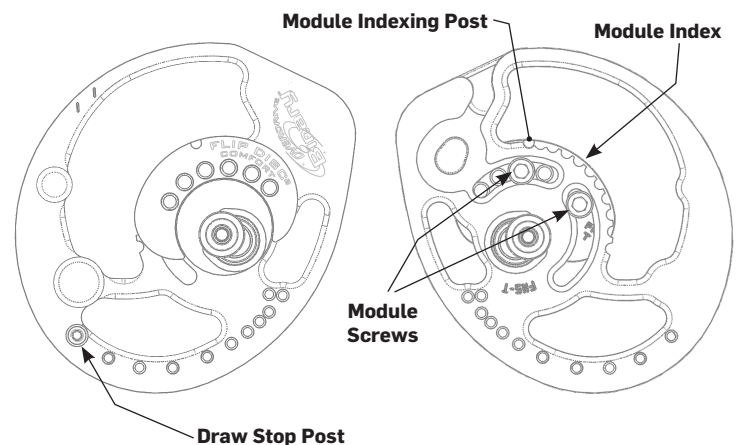

Figure 1: OverDrive Binary Draw Length Adjustment
Refer to **Figure 1** and **Chart 1 & 2**
10. Your Bowtech Fanatic 3.0 is equipped with three draw stop posts that allow for adjustable let off (**see figure 1**). The let off on your bow can be adjusted easily to your preference by simply choosing the smallest post will give you maximum let off and extended valley. The largest post will shorten the valley to its shortest setting and decrease effective let off for those archers that prefer a back tension release or similar style release method. The medium post is a comfortable balance between the high and low settings. To set let off properly, both draw stops need to be in the same setting.